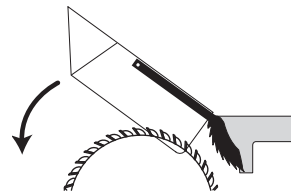

Figure 43. Typical ripping operation.
11. Use a push stick to feed the workpiece through the saw blade, as shown in **Figure 43**, until the workpiece is completely past the saw blade.